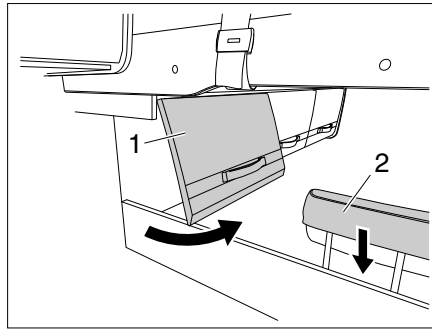

Fig. 161 Storage compartment flap and headrest
- Open the storage compartment flap (Fig. 161,1).
- Lower the headrest (Fig. 161,2).